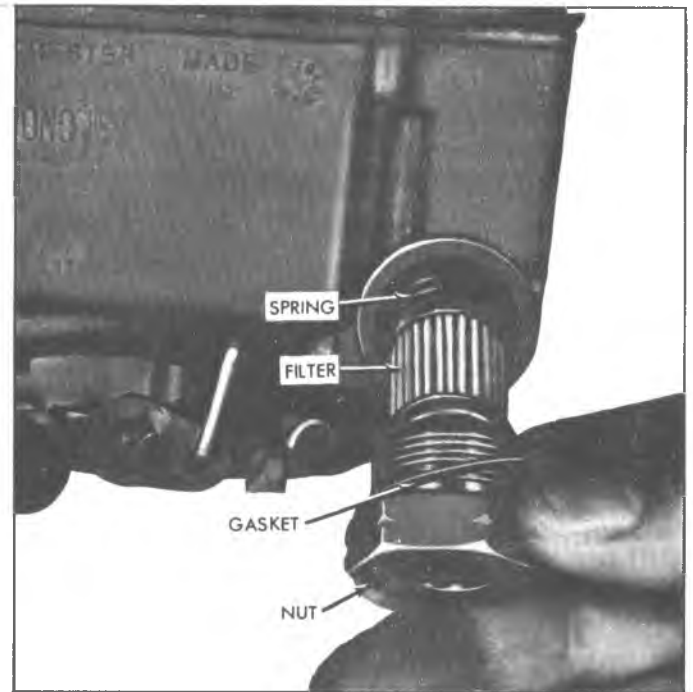

Fig. K4--Fuel Filter (Paper-Type) (Typical)
3. Remove filter element and spring (fig. K4).